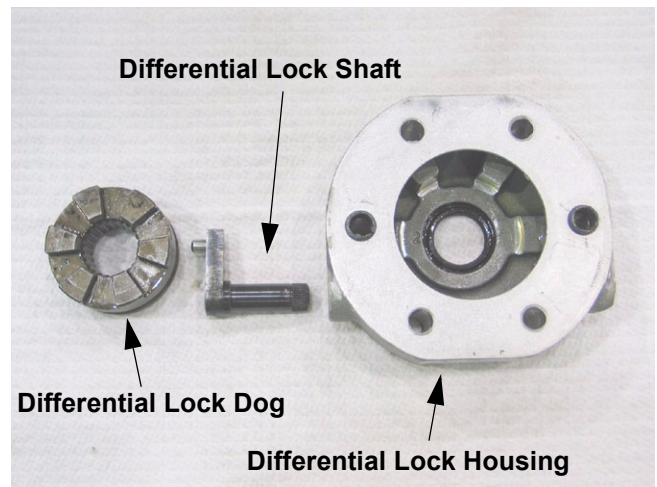

Figure 11.9
- 11.9. Disengage the differential lock dog from the pin on the differential lock shaft. Lift the dog out of the housing and push the differential lock shaft out of the differential lock housing. See Figure 11.9.